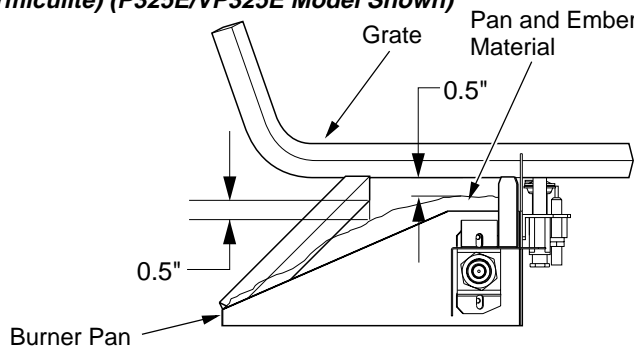

Figure 21 - Pan and Ember Material Clearances (P325E/VP325E Model Shown)
4. Place just enough to cover the entire surface and leave about a 1/2 inch gap under the lower grate members to allow air to flow (see Figure 21).